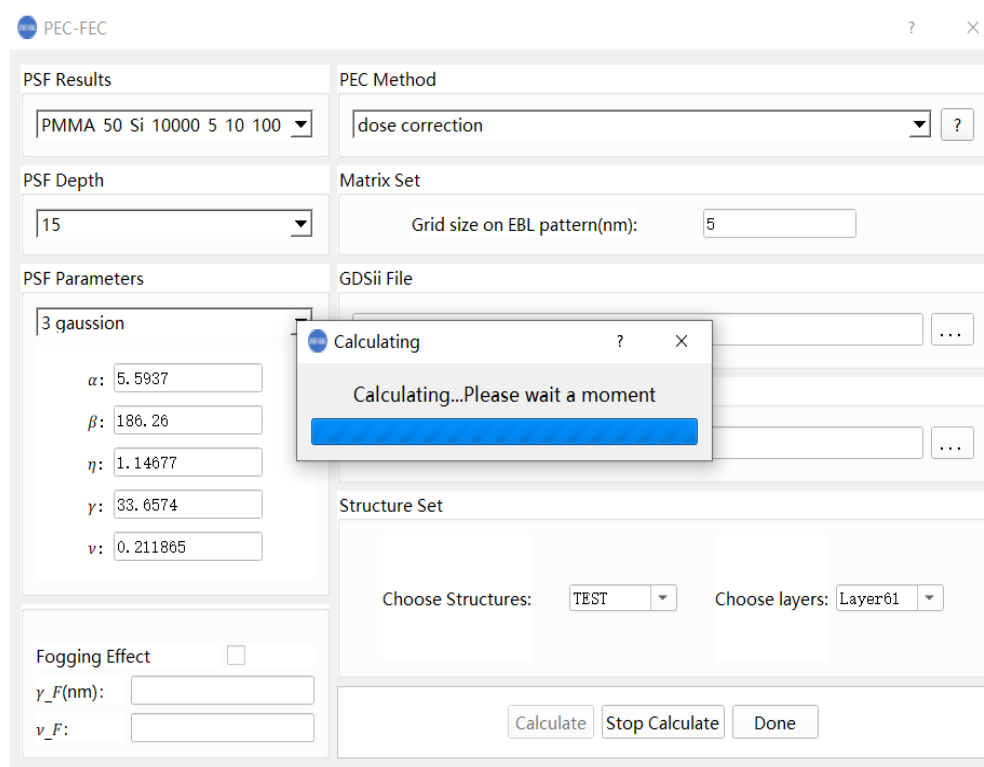
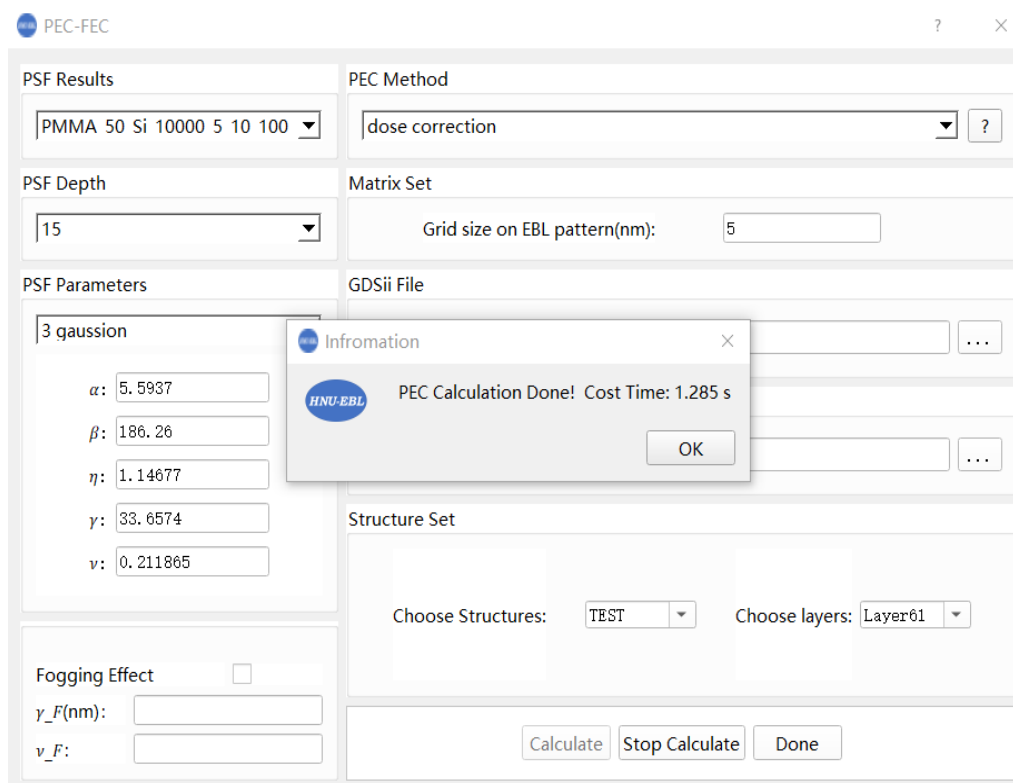

Figure 3.1.3 Proximity effect correction calculation interface
Figure 3.1.4 Proximity effect correction calculation completion interface
(11) You can click "Calculation" (Figure 3.1.3) to perform PEC. If the input parameters are incomplete, the calculation cannot be started. The calculation time is displayed after the calculation is completed (Figure 3.1.4). After the calculation is completed, you need to click "Done" to close the current window, and you can save the output file to the specified folder.